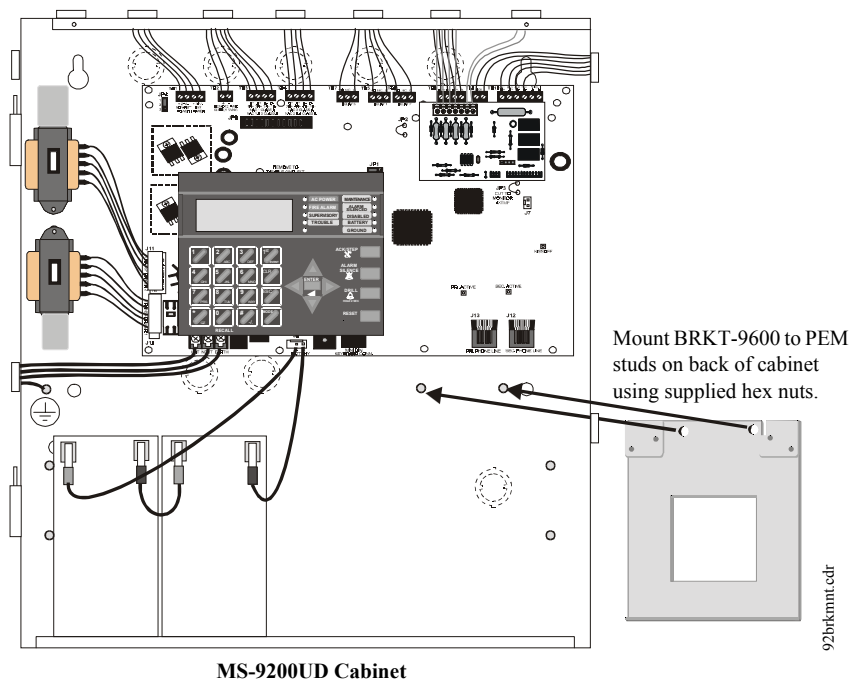

Figure 2.7 BRKT-9600 Bracket Installation
1. Install the two supplied standoffs in location (A) as indicated in Step 1 of the following illustration
5. Install a maximum of two 12 Amp Hour batteries with the orientation illustrated in Figure 2.7. Larger batteries require a separate UL listed battery box